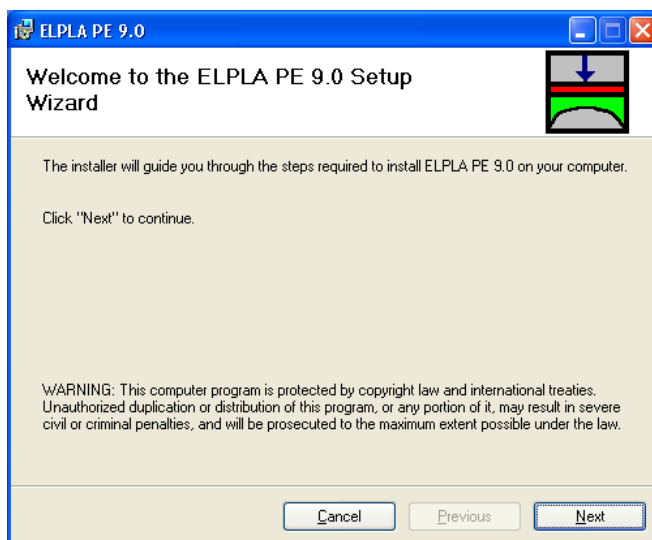

Figure 1 *ELPLA* Installer form
The installer program is automatically loaded when the CD-ROM is inserted into the drive, Figure 1. The installer will guide you through the steps required to install *ELPLA* on your computer.
- Click "Next" button in the form of Figure 1 to install *ELPLA* on your computer